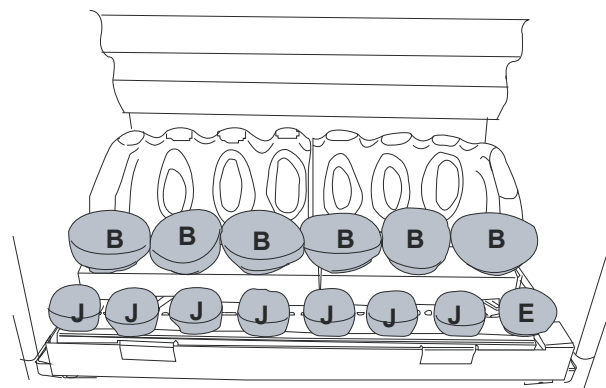

Figure 34
4. Insert the **J & E** pebbles centrally onto the spikes and place the **B** pebbles on the middle matrix ensuring the same orientation as shown in **Figure 34**.